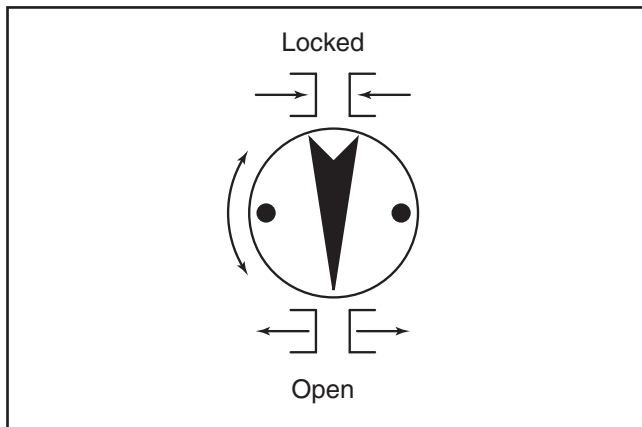

Figure 53. Feed rod lock knob.
2. Move the feed rod lock knob to the open position (see **Figure 53**). This will disengage the feed rod so gears can be changed.
4. Move the feed rod lock knob to the open position (see **Figure 53**).